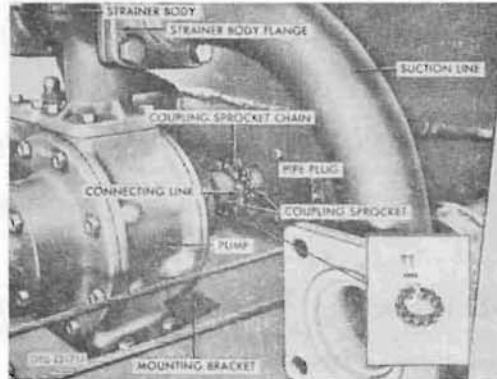

Figure 282. M50 and M50A1 delivery pump
a. Removal. Remove connecting link from coupling sprocket chain (fig. 282), and remove chain from coupling sprockets. Remove four screws and lockwashers holding delivery pump strainer body flange to strainer body, and free flange from body. Remove four screws holding delivery pump outlet flange to underside of pump, and free flange from pump. Remove four safety nuts and screws holding pump to mounting bracket, and remove pump. Unscrew and remove strainer body flange from delivery pump suction line. Unscrew and remove outlet flange from delivery pump discharge pipe. Loosen setscrew securing coupling sprocket on delivery pump rotor shaft, and remove sprocket and key.
b. Installation. Install strainer body flange (fig. 282) on pump suction line. Install outlet flange on pump discharge line. Position strainer body flange and outlet flange gaskets on pump and install woodruff key in pump rotor shaft. Install coupling sprocket on rotor shaft over key. Position pump on mounting bracket and secure pump to strainer body flange with four hex-head screws and external-teeth lockwashers. Secure pump to mounting bracket with four 85,000-psi yield strength hex-head screws and safety nuts. Secure outlet flange to underside of pump with four hex-head screws. Push coupling sprocket forward against mating sprocket and tighten setscrew in sprocket hub. Install coupling chain on the sprockets, and install connecting link.